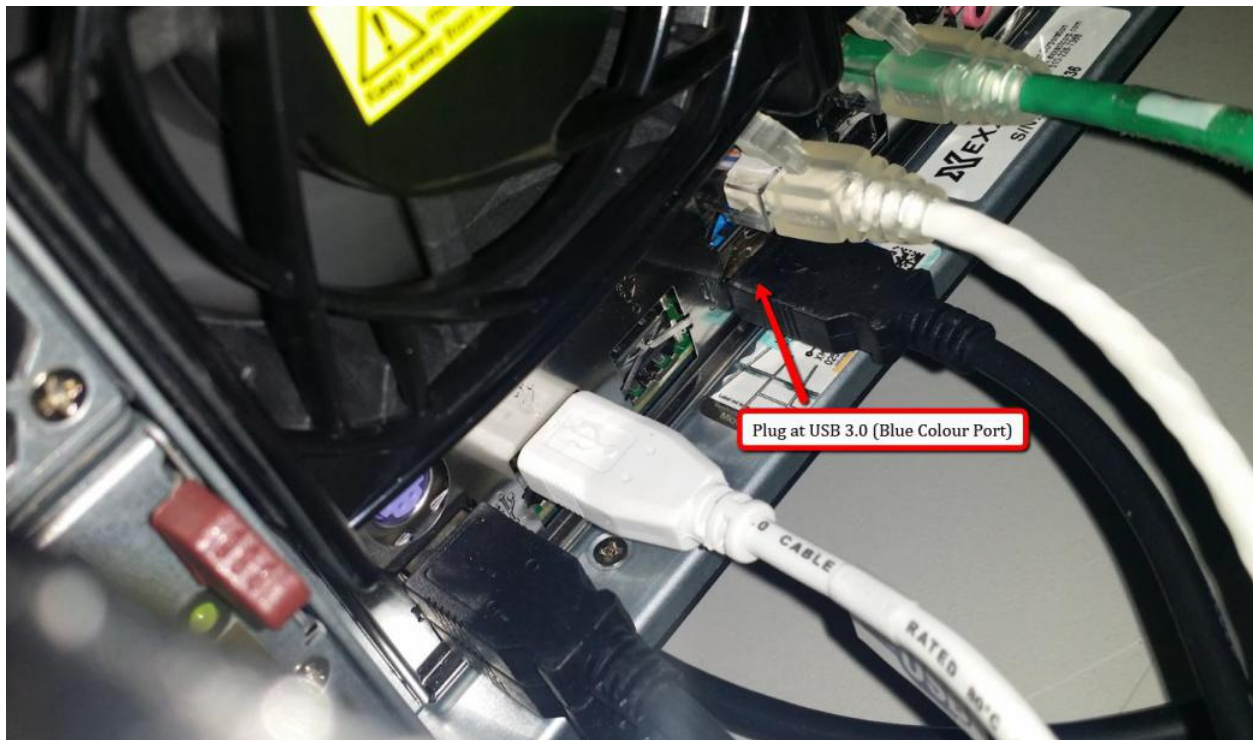

Figure 10 Rear side of Master controller (USB 3.0 PORT)
9. The other end of the PSP 2 CAMERA CABLE may connect to Master Controller (USB PORT 3.0 Blue Color) as below Figure 10.